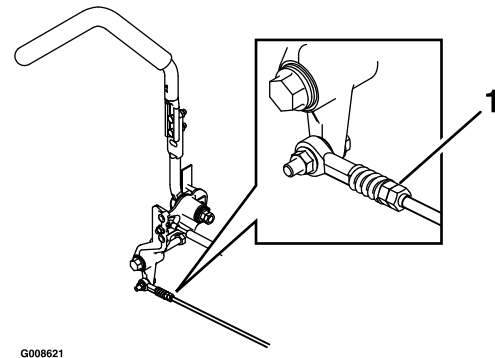

Figure 45
7. Bring the motion control levers into the neutral position. Adjust pump control rod lengths by rotating the double nuts on the rod in the appropriate direction until the wheels slightly creep in reverse (Figure 45). Move the motion control levers to the reverse position and while applying slight pressure to the lever allow the reverse indicator springs to bring the levers back to neutral. The wheels must stop turning or slightly creep in reverse.